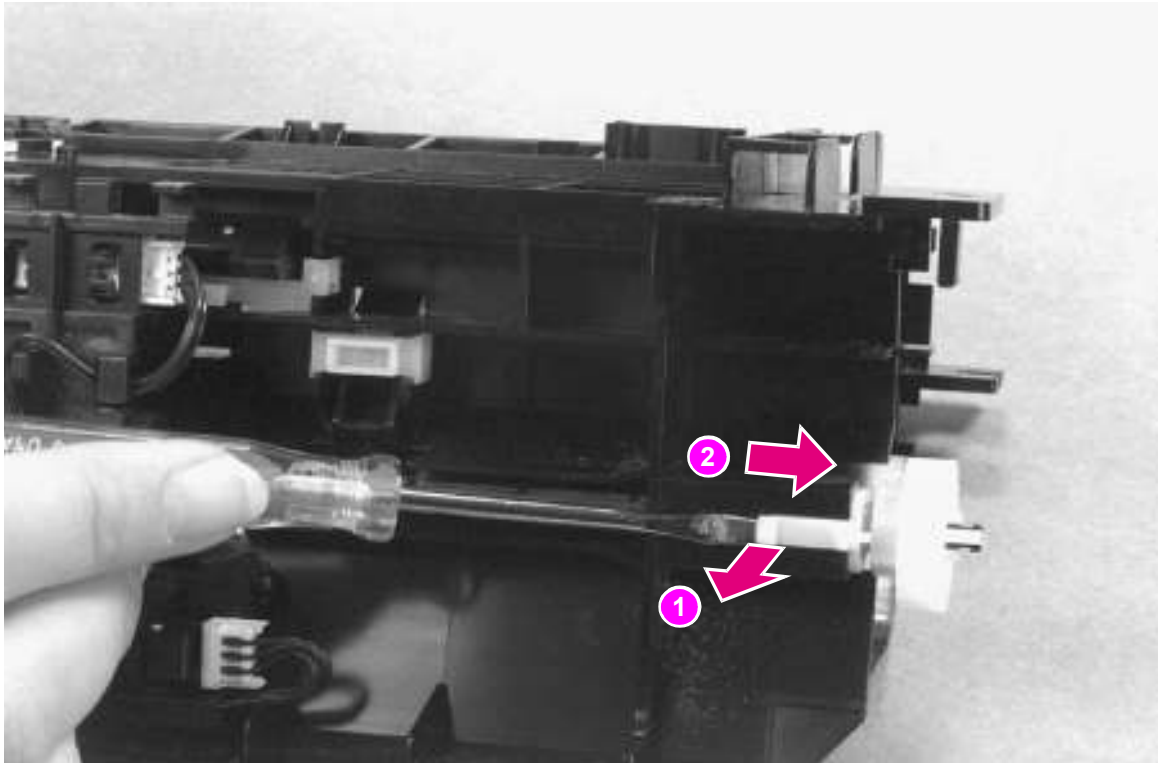

Figure 6-35 Feed Assembly removal (1 of 3)
- 3 Remove the Feed Roller Shaft by lifting the plastic tab up (Figure 6-35, callout 1) and sliding it out the side of the Paper Feed Frame (Figure 6-35, callout 2).
Before securing the screw, ensure the tabs on the Feed Assembly are positioned in their slots on the Paper Feed Frame (Figure 6-35, callout 2). Failure to do so will cause paper feed problems.